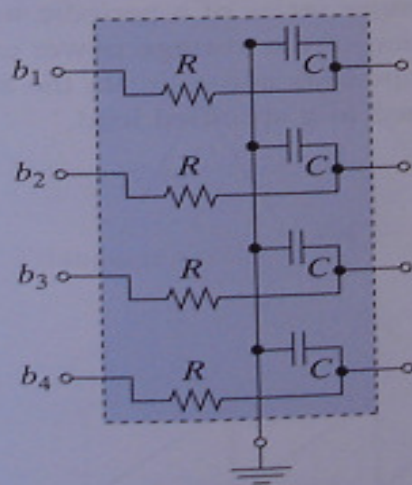

FIGURE P12-54
Integrated circuit (chip) RC networks are used at parallel data ports to suppress radio frequency (RF) noise. In a certain application RF noise at 3.2 MHz is interfering with a four-bit parallel data signal operating at 1.1 MHz. A chip RC network is to be used to reduce the RF noise on the parallel bus by at least 7 dB without reducing the data signals by more than 2 dB. A vendor offers a family of chip RC networks connected as shown in Figure P12-54. The available circuit parameters are shown in Table P12-54. Select the part number that best meets the noise suppression requirements.